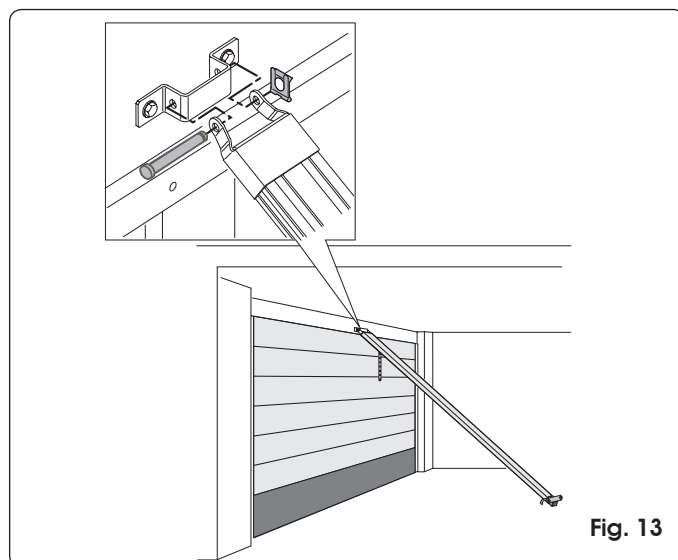

Fig. 13
- 7) Raise the guide from the front fitting and assemble the fitting with the securing bracket using the relevant pin and clamp (Fig. 13).